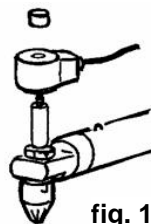

fig. 16
- Remove Knurled Nut from Magnetic Valve, Lift-up the Magnet-Coil and let it hang by its cable. (fig. 16)
- Place Magnet Coil and Knurled Nut on the Upper Closing Unit. (fig. 16, page 17) Tighten Knurled Nut.